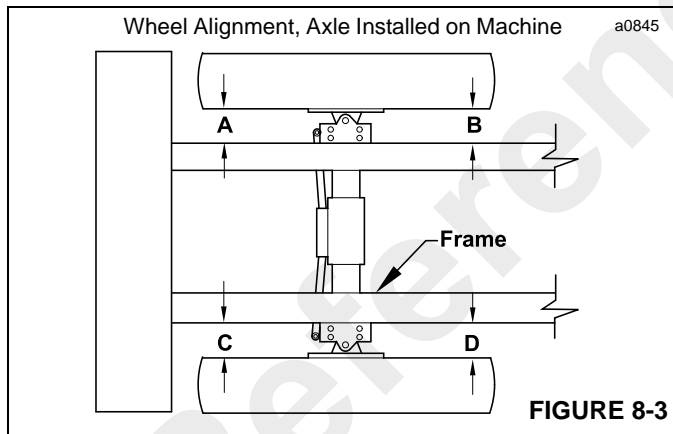

FIGURE 8-3
2. Take measurements from the tire to the crane frame at the four positions A, B, C and D indicated in Figure 8-3. All four dimensions must be equal.